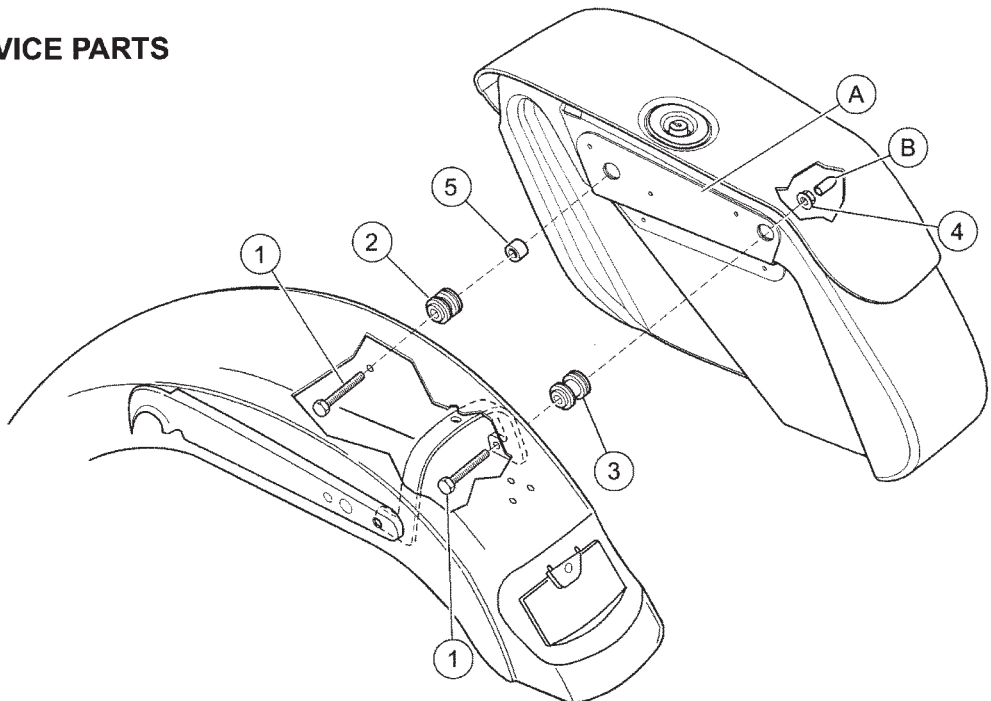

Figure 2. Service Parts: Docking Hardware, Sportster with Saddlebags
See Figure 2 and Table 1.
1. **For 88312-07 Saddlebag Kit:** See Figure 2. Obtain a front docking point (2), cap screw (1) and spacer (5) from kit. Note the small-diameter collar on one end of the docking point. From the underside of the fender, insert the screw through the forward hole in the fender, and through the fender support and cover.
2. **For All Other Saddlebag Kits:** See Figure 2. Obtain a front docking point (2), cap screw (1) and spacer (5) from kit. Note the small-diameter collar on one end of the docking point. From the underside of the fender, insert the screw through the forward hole in the fender, and through the fender support and cover.